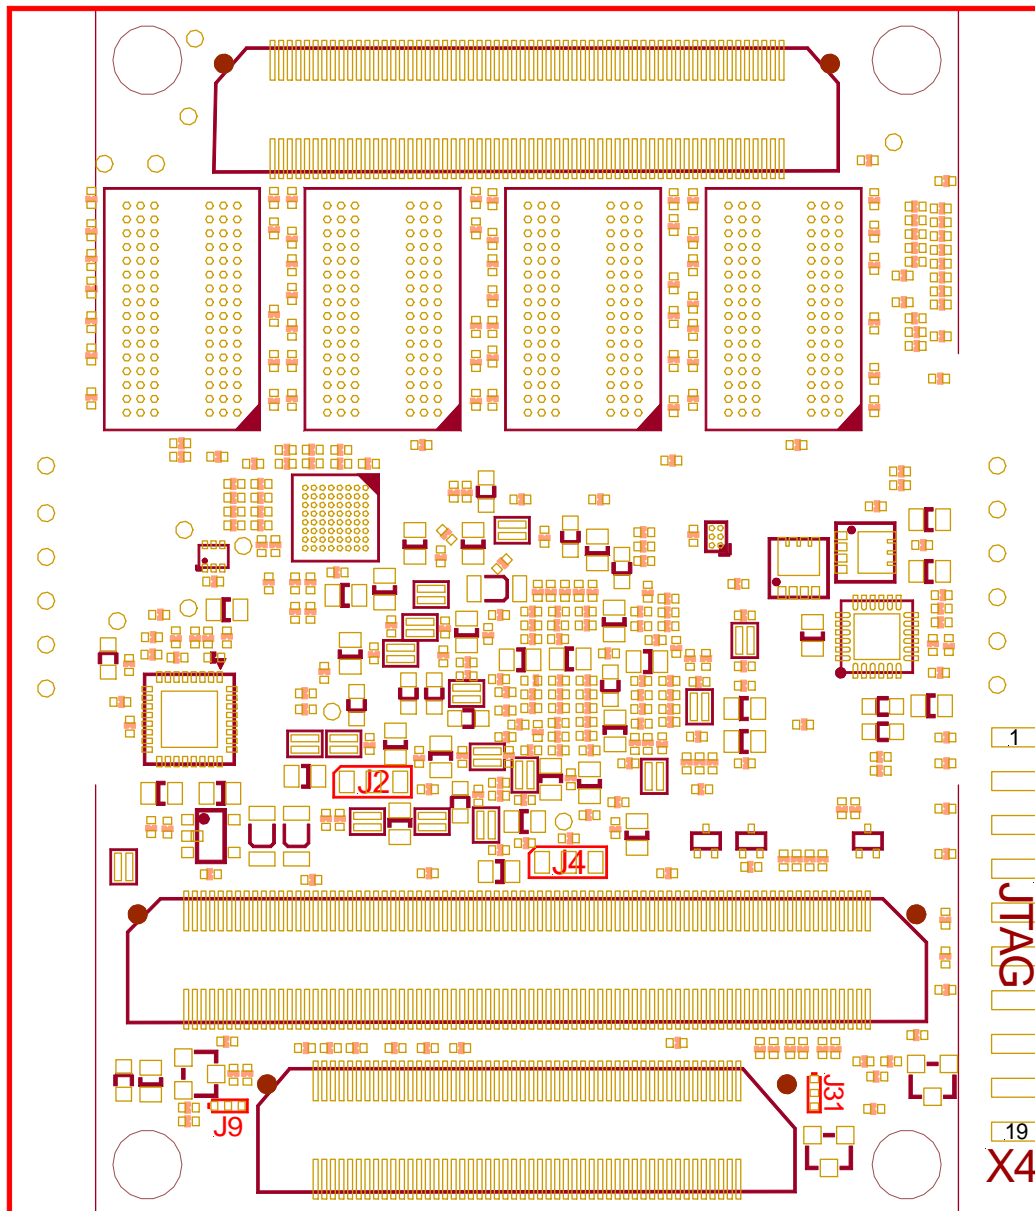

Figure 8: JTAG Interface at X4 (bottom view)
*Figure 7* and *Figure 8* show the position of the debug interface (JTAG connector X4) on the phyFLEX-i.MX 6 module.